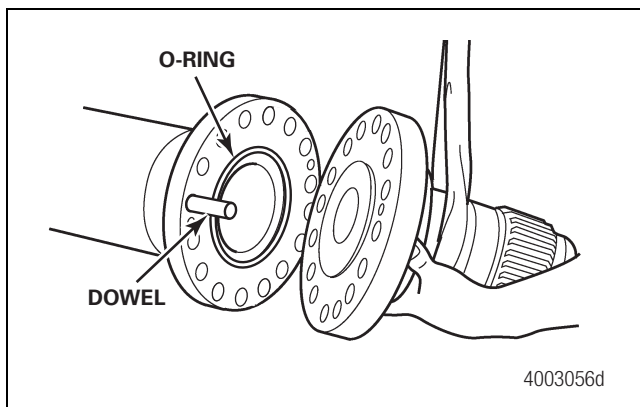

Figure 3.11
14. Use a lifting device to support the spindle. Pull to remove the spindle from the housing and set aside. Figure 3.11.
16. Remove the O-ring from the axle housing or spindle and discard it. Figure 3.11.